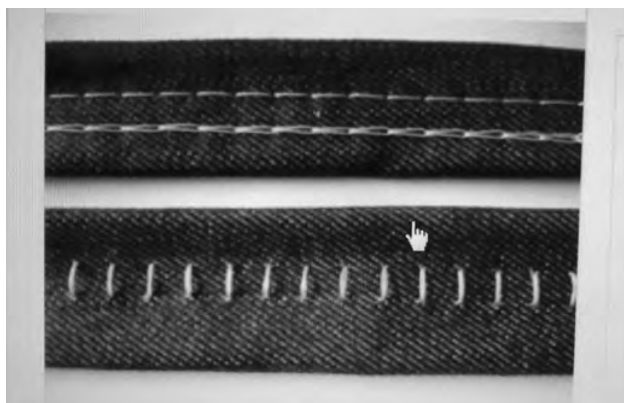

Figure 8: Seams of parallel hand stitches on the bottom fabric surface (bottom)
- a seam of straight stitches (see Fig.8, top).